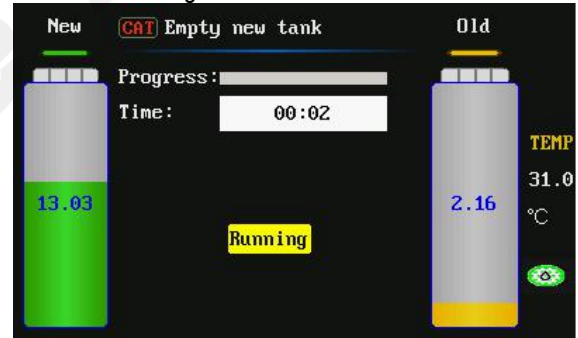

Fig.29
- 3) The system will OK into the interface for Empty new tank, and automatically start fluid draining operation, as shown in Fig.29.